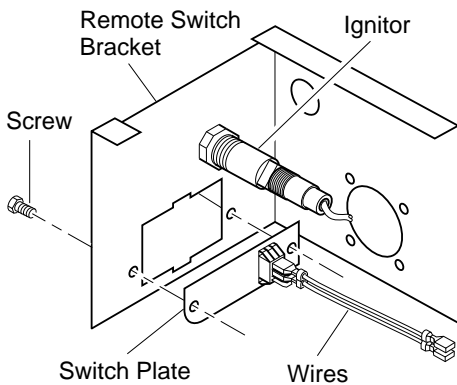

Figure 25 - Switch Plate and Wiring Harness
3. Remove switch plate (see Figure 25). Discard after removing.